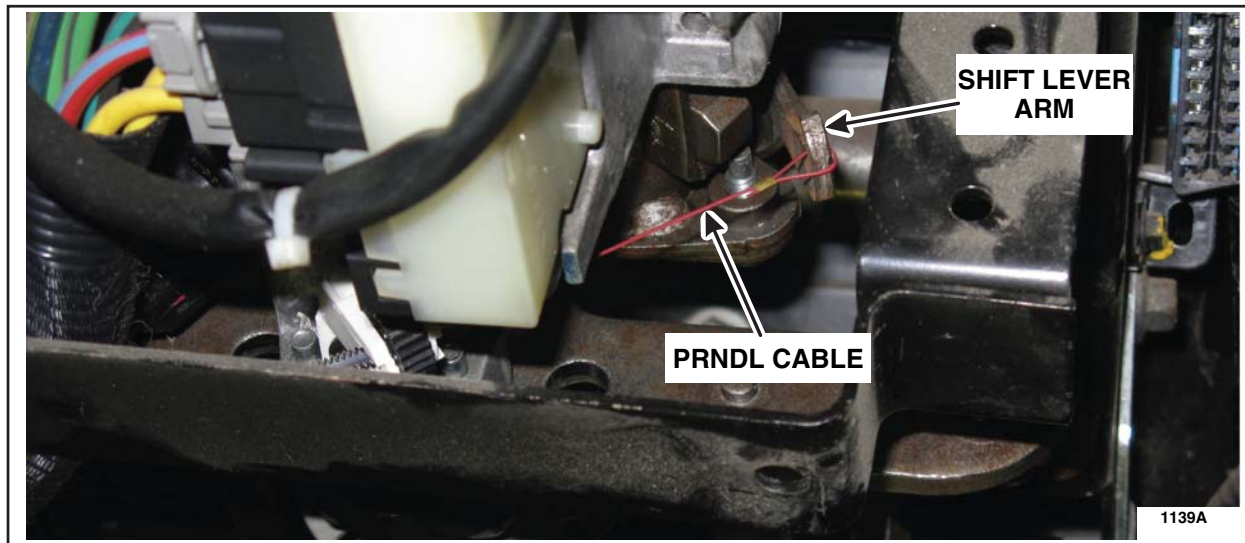

FIGURE 1
2. Detach the PRNDL cable from the shift lever arm. See Figure 1.
5. Attach the *new* PRNDL cable to the *new* shift lever arm. See Figure 1.